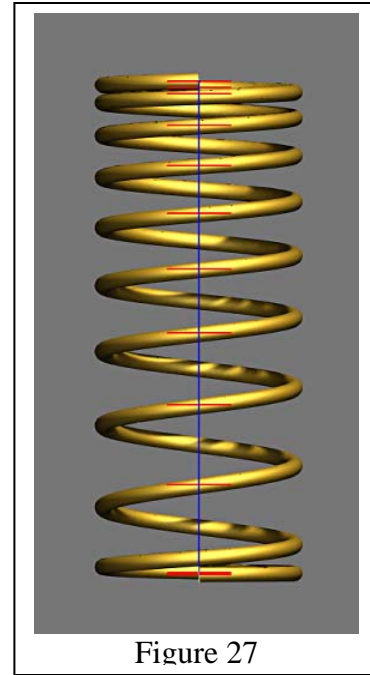

Figure 27
5. Draw the spring itself just as in the earlier example: Place a 0.125” diameter circle near the bottom of the vertical line and 0.75” to its right and rotate the circle 45 degrees about the X axis. Sweep the circle along the Spline and specify a *Twist Angle* of 3600 degrees. Finally, switch to a side view and adjust the tilt of the circle to make it perpendicular to the Sweep. Figure 27 shows the completed spring. (The lowermost three markers are too close together to be visible as separate entities.)